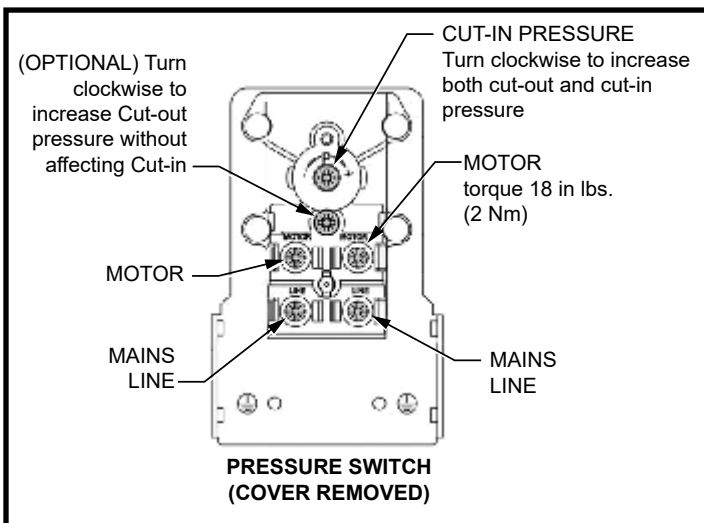

Figure 1-7
7. Follow instructions on (Figure 1-7) to carefully adjust cut-in or cut-out levels.